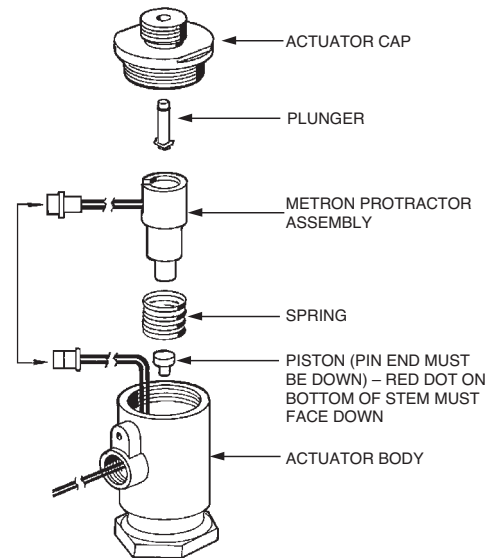

FIGURE 8
4. Unscrew actuator cap. See Figure 8.
5. Lift actuated METRON PROTRACTOR assembly housing out of actuator body and disconnect wire plug. See Figure 8.
9. Plug wire connector together. See Figure 8.